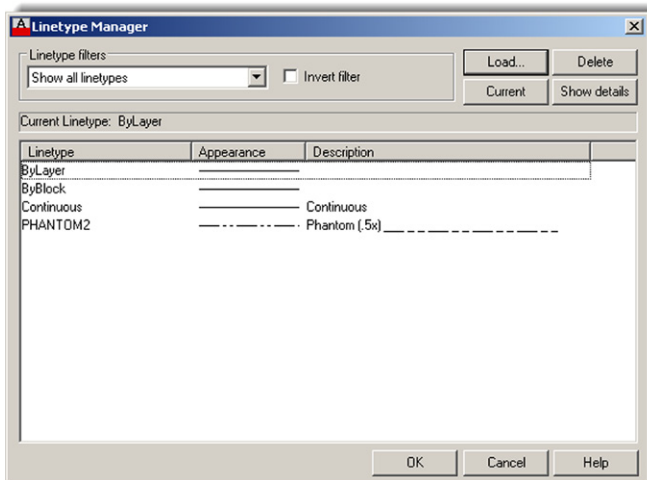

FIGURE 3.7
- Step 1.** Type in `linetype` and press Enter or choose Format→Linetype... from the cascading menu. The Linetype Manager (Figure 3.7) appears. If it is full of linetypes, it means they have been loaded earlier. If not, and the Linetype Manager is empty, go on to Step 2.